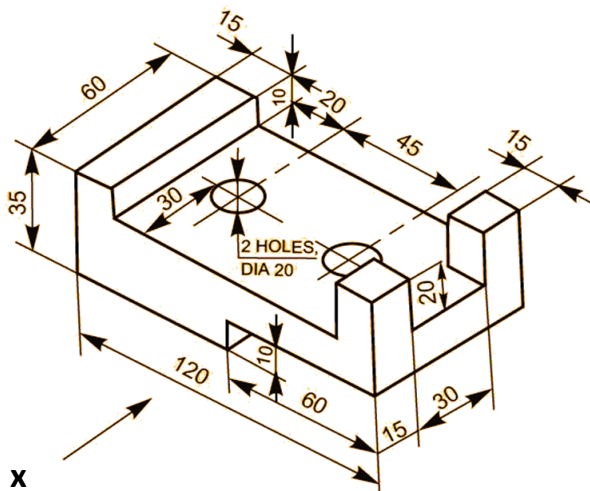

Figure 10
1. Draw the following View for Figure 10